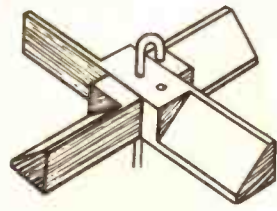

Fig. 5
There are two holes shown slightly enlarged in Fig. 5. The centre one takes the wire and the other takes the end of
The wire drive can now be inserted. Make a start by bending at the sail end as seen in Fig. 5. The wire proceeds through piece 2 then through the two blocks (5) in the centre of the car. The handle end is bent as shown in the finished illustration, and is finally inserted through the arms (pieces 7) of the motorist. Note that the wire should have easy movement in all these holes, and fashion it so as to make the movement as frictionless as possible. Adjust the metal strip to the ratchet (piece 13) so that it makes good contact with the cogs.